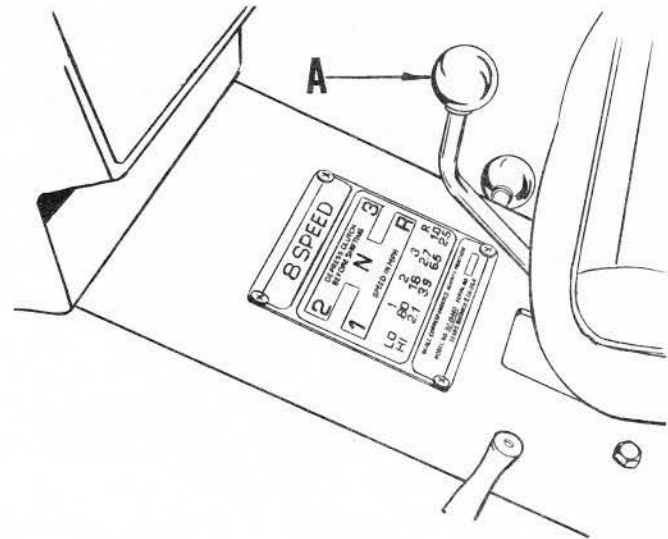

FIG. 3
2. The transmission (transaxle) gear shift lever (A), is located at front, center of seat.
- a. The gear shift lever selects the FORWARD speeds, the NEUTRAL and REVERSE speeds. Refer to Fig. 3.
- Transmission gear shift lever (A, Fig. 3), is in NEUTRAL.